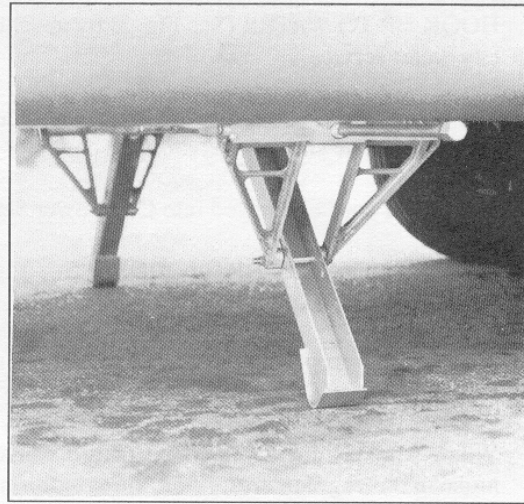

Fig 2 - B.A.L. Stabilizing Jack
3. When ball is completely nested in socket, push top of latch handle rearward until handle snaps into closed position. (Figure 2)